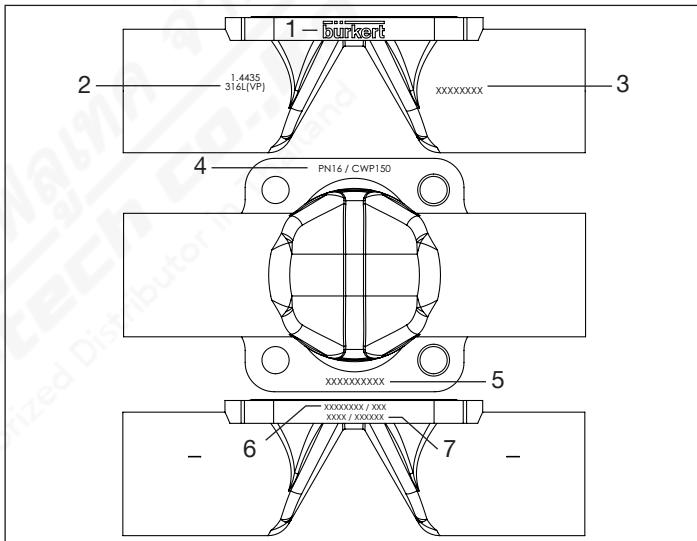

Fig. 10: Labelling on tube valve body
- The self-draining angle (α) depends on the valve body size and the inner diameter of the port connection (DN).
- The self-draining angle is specified as a value on forged steel valve bodies (VS) and tube valve bodies (VP) (see "Fig. 8" and "Fig. 10").